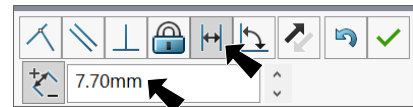
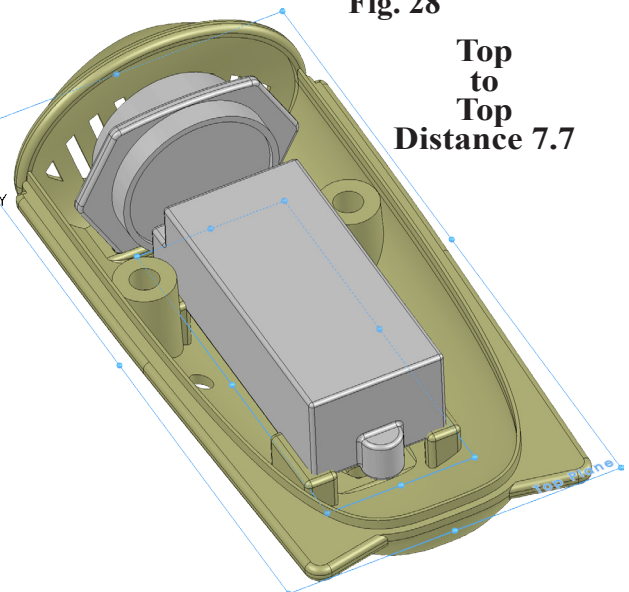

Fig. 28
Fig. 29
Step 7. Click **Distance**  in Mate pop-up, **Fig. 28**. Set **distance 7.7** and press ENTER. The Battery Holder should be positioned inside, **Fig. 29**. If positioned in opposite direction, click **Flip Dimension**  in the Mate pop-up. Click Add/Finish Mate  to add Distance mate.